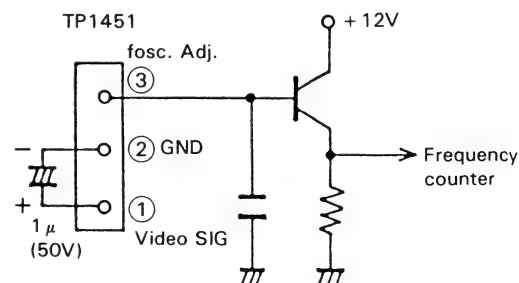

Figure 2-14. Buffer Circuit
1. Connect the frequency counter to pin ③ of TP1451 with a buffer in between, as shown in Fig. 2-14.
2. Add a 1  $\mu$ F/50V capacitor between pin ① (video signal) and pin ② (GND) of TP1451, as shown in Fig. 2-14.